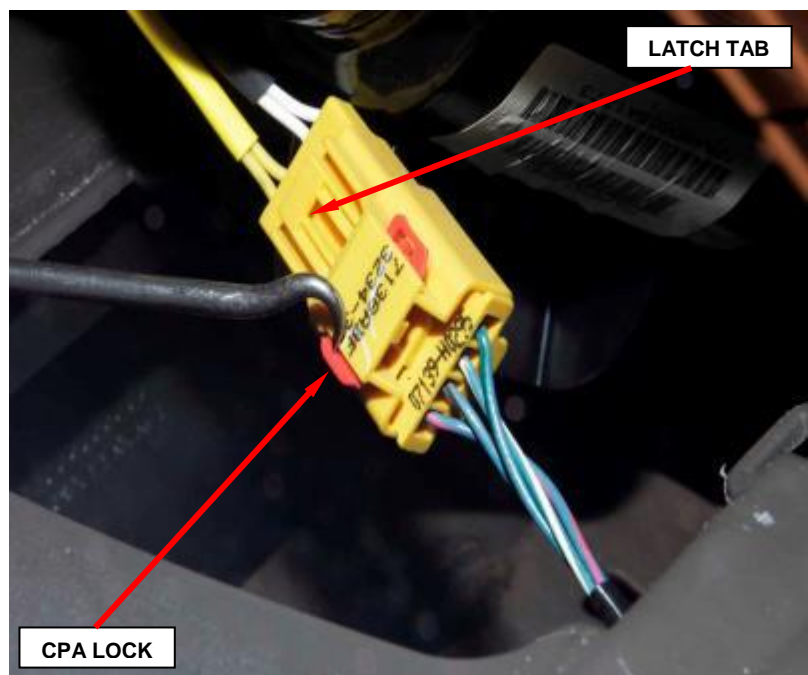

Figure 15 – Airbag Inflator Pigtail Connector
- a. Slide the red Connector Position Assurance (CPA) lock on the connector toward the side of the connector (Figure 15).